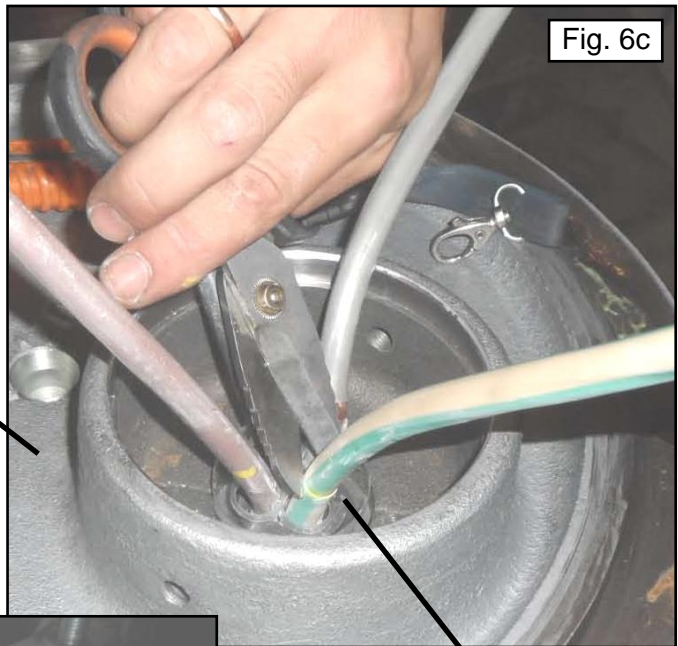

Fig. 6c
- Rotate the stuffing box **77** upside down and fix the plastic spacer **3D** making the wires passing through the prepared 4 (four) holes (**Fig.6c, pg.9**).
- Use a knife or scissors and carefully remove the wires rubber cover inside the prepared resin basin of the stuffing box **77** (**Fig.6c**) for about *0,5 cm length*. This has to be done between the 2 (two) spacer **3D** and **3E** (**Fig.6a**) to avoid the water can seep in through the wires in case of electric cable cut.